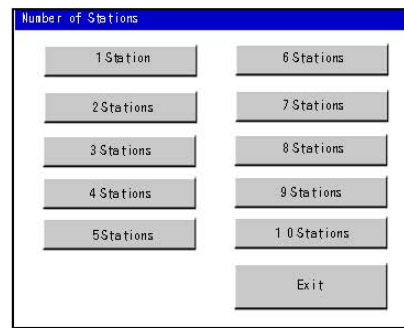

Figure 3-LL
- The Number of Stations screen displays (Figure 3-LL).